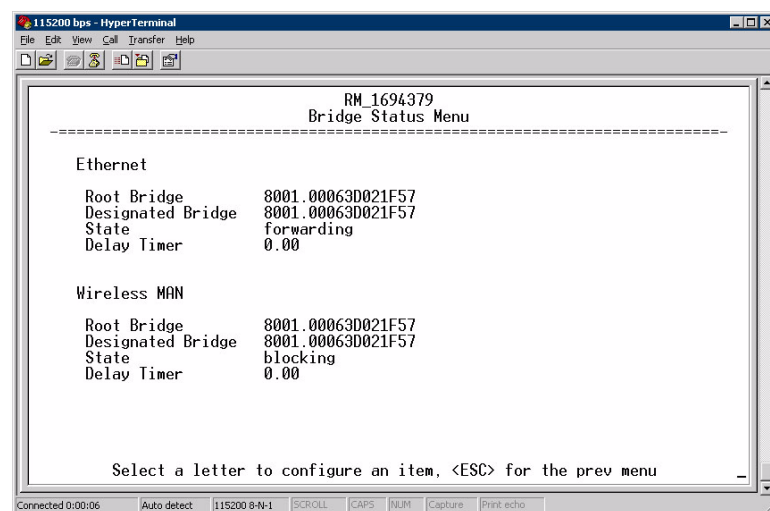

Figure 3-85. Bridge Status Menu
- **Bridge Status**—Displays the network bridge status. (See Figure 3-85 on Page 114.)